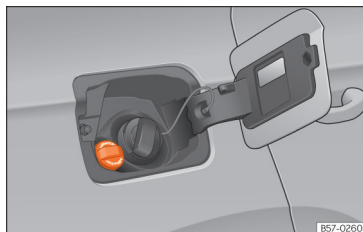

Fig. 190 AdBlue tank cap®.
- Open the tank cover >>> **Fig. 190.**
- Turn the SCR tank cap anti-clockwise >>> **Fig. 190.**